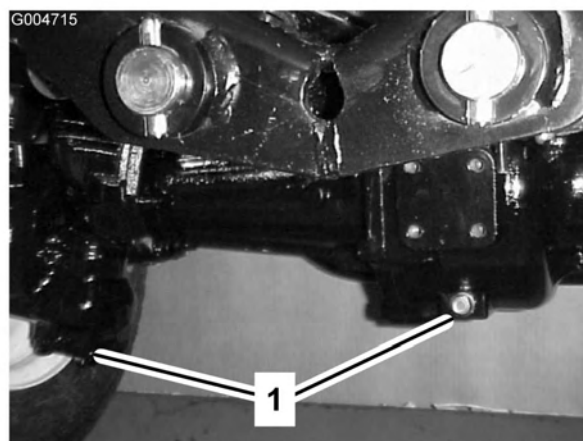

Figure 59
2. Clean the area around the 3 drain plugs; 1 on each end and 1 in the center (Figure 59).